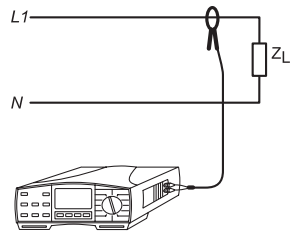

Figure 105: Clamp Adapter Connection
- ▶ Connect the selected clamp adapter to both measurement connectors C1 (14) and C2/P (15), please refer to Figure 105.
- ▶ Switch on the UNITEST EUROtest using the key 'ON/OFF'. Turn the rotary switch 'Measurement Function' to the function (7) Harmonics
- ▶ Connect the clamp adapter in accordance with Figure 105. Open the clamp adapter and use it to surround one of the active conductors to be measured at UUT. If desired, this connection information can directly be retrieved on the measurement instrument using the key 'HELP'.